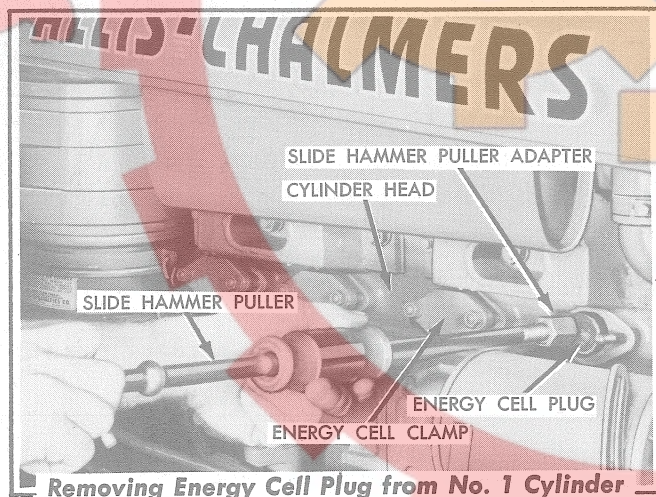
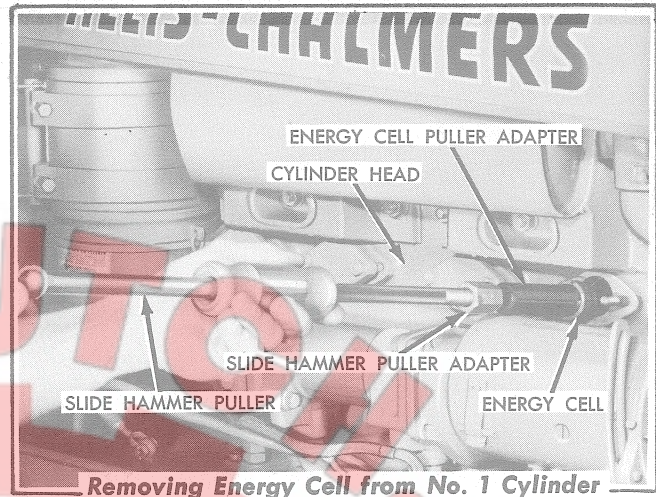

FIG. 42
FIG. 43
- b. Using special tools similar to the ones shown in Fig. 42, pull the energy cell plugs from the energy cells.
- c. Using special tools similar to the ones shown in Fig. 43, pull the energy cells from the cylinder head. **NOTE:** The special tools illustrated in Figs. 42 and 43 are available; contact your nearest "Allis-Chalmers" Dealer.